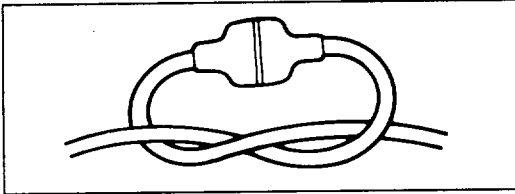

Figure 3
See Figure 3 for proper cord connection.
1. Secure the pigtail power cord and a suitable extension cord as shown in Figure 3.